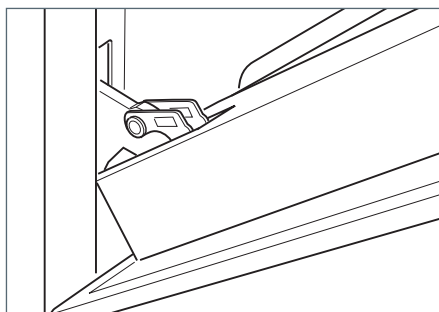

Fig. 63d
- 4 Gently close the door until left and right hinge levers "A" are hooked to part "B" of the door (Fig. 63d).